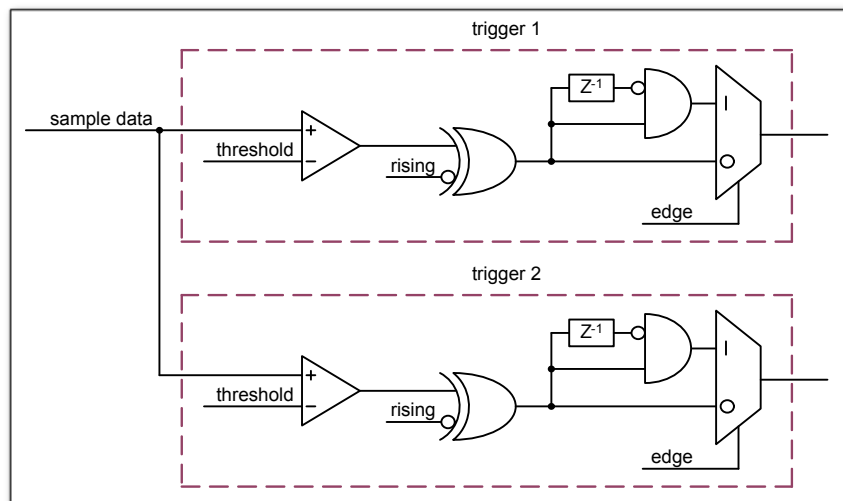

Figure 2.16: From the ADC inputs, a trigger unit creates an input flag for the trigger matrix. Each digitizer channel (A, B, C, D) has two trigger units.
- the 8 trigger decision units of all four ADC channels (Figure 2.16 on page 13)